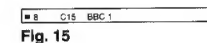

Fig. 15
- 4 Using  $\Delta$  or  $\nabla$ - select the programme position which you want to move to another and press OK. The colour of the selected position changes. (See Fig. 15.)